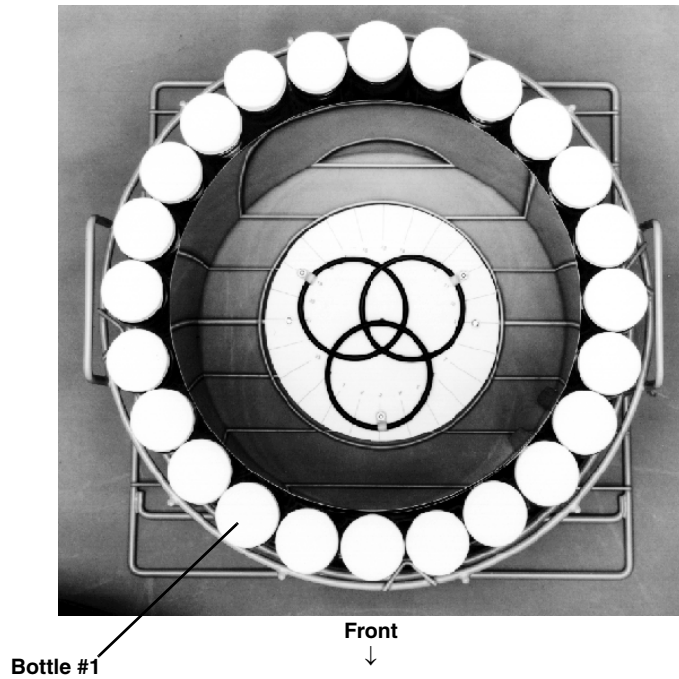

Figure 2-10 Sample Bottle Rack with 24 Glass Sample Bottles
3. Place the new glass bottles in the rack as shown in Figure 2-10. Make sure all bottles are fitted properly in the rack. Note the four metal triangles on the inside of the rack which rotationally align the bottles.